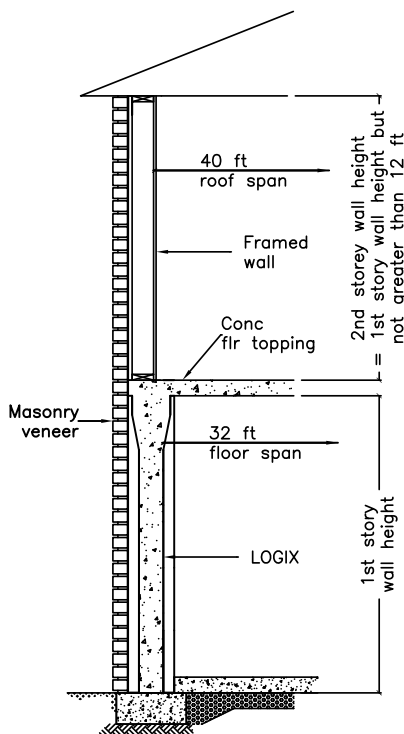

Fig 3B
- One storey LOGIX supporting 2nd storey wood frame plus wood roof frame (Fig. 3B)